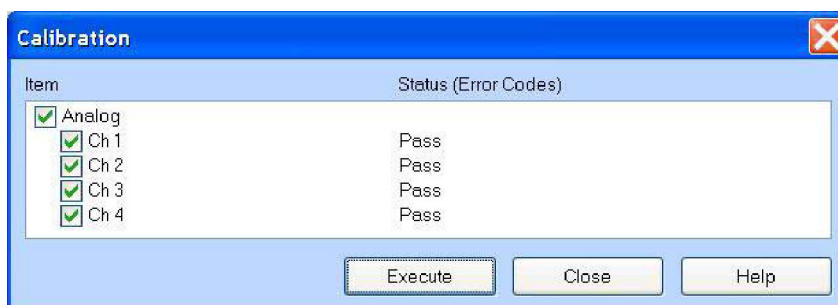

Figure 39: Calibration dialog box
2. From the menu bar, select **System** and then select **Calibration...**; the Calibration dialog box appears. (See Figure 39.)